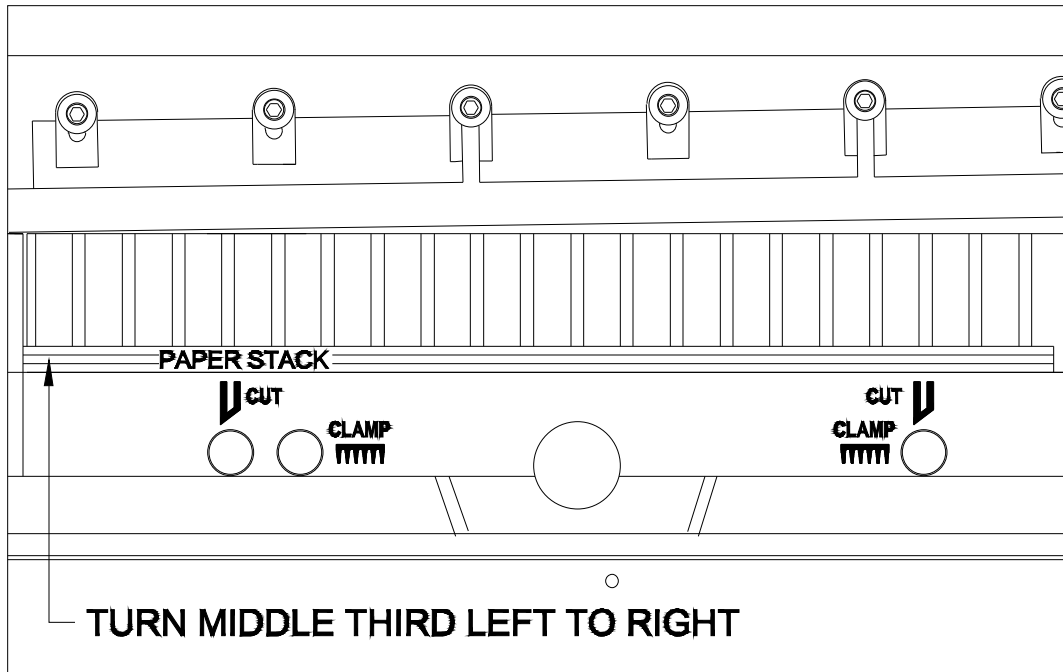

Fig 34
5. Pull a few sheets out of the center of the cut paper. Turn these sheets over right to left. Place them back into the center of the stack. Fig. 34.